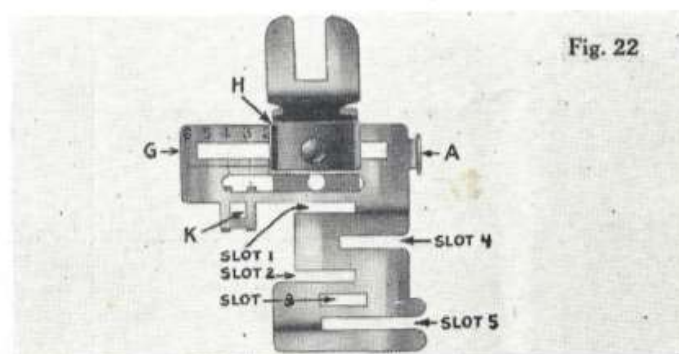

Fig. 22
The numbers 2 to 6 inclusive stamped on the back edge of the sliding guide (G) (Fig. 22) represent the width of tuck in eighths of an inch. After folding the material for the first tuck, introduce the folded edge into the guide slot which is nearest the needle. When the left hand edge of the friction spring (H) coincides with the number 2 on the scale a  $\frac{1}{4}$ -inch tuck results.
By moving lug "A" draw the edgestitching portion of attachment toward the right and set braiding guide "K" directly in front of the needle so that needle pierces the center of trimming as it is being stitched. Enter the braid into the hole K (Fig. 22). The design to be braided should be plainly marked or stamped on the top or right side of fabric. Stitch along this design, being sure that the soutache braid is feeding freely into the hole K without twisting. To turn a corner, stop the machine with the needle down through the braid in the exact corner of the design, raise the presser bar just enough to permit the turning of the fabric in the desired direction, lower the presser bar and proceed as before.